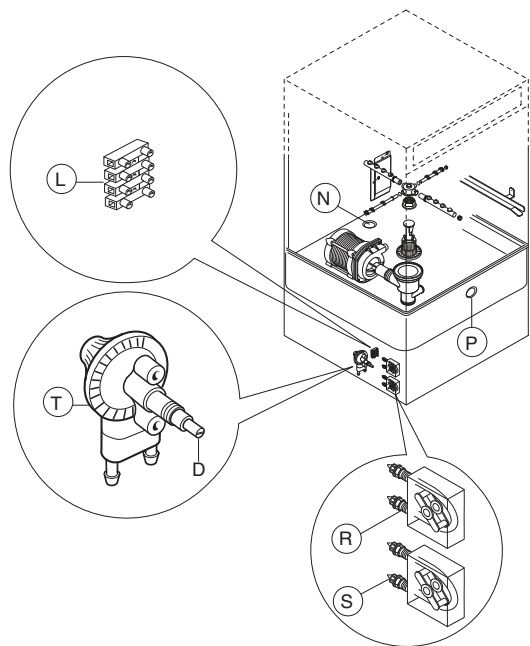

Figure 13
1. Dishwasher with incorporated detergent dispenser pump (Figure 13).
2. Dishwashers with incorporated peristaltic rinse-aid dispenser pump (Figure 13).
3. Dishwashers with incorporated rinse-aid diaphragm dispenser pump (Figure 13).
Connections for automatic detergent dispenser (Figure 13)
Connect to the terminal board "L" (Figure 13) to terminals 1 and 2 for dispensing during the rinse cycle or to terminals 3 and 4 for dispensing during the wash cycle.